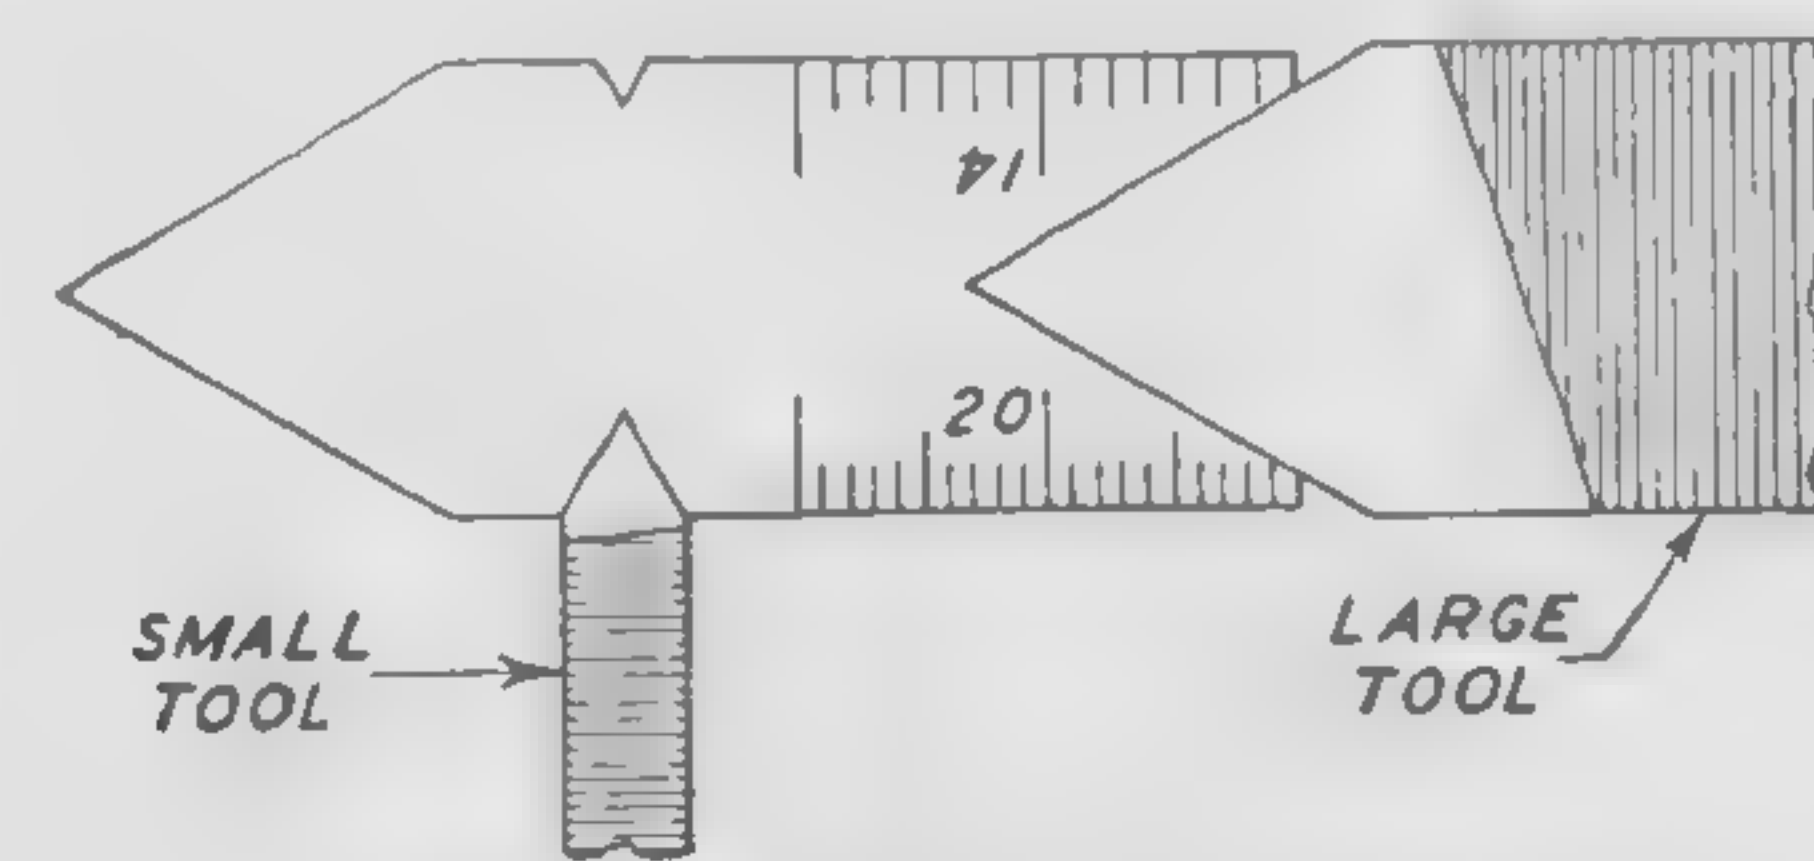

Fig. 32. Tools Ground to Fit Center Gage
3. Place the tool in the center gage, Fig. 32, in the proper angle. Hold the tool to the light. If the tool is ground perfectly, light will not show through between the gage and the tool.